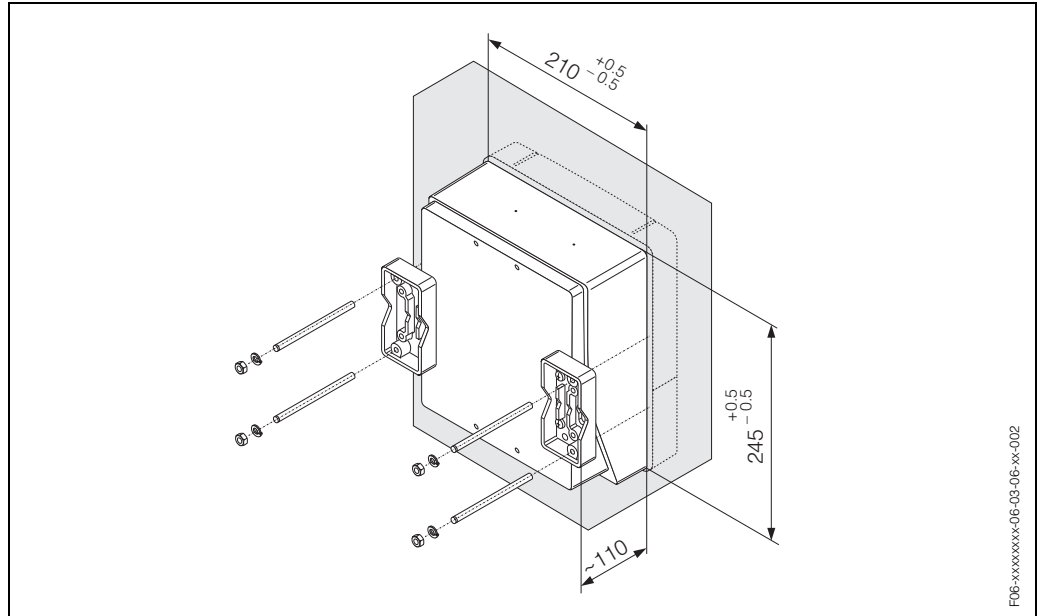

Fig. 44: Panel mounting (wall-mount housing)
1. Prepare the opening in the panel (Fig. 44).